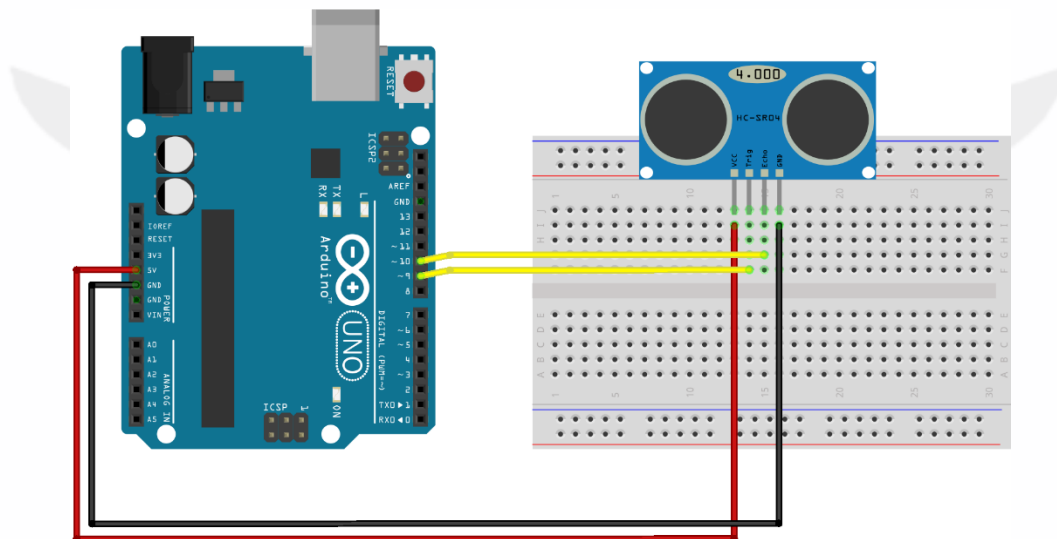

Figure 4.1 – Wiring diagram for Ultrasonic Distance Meter project.
- a. Connect the HC-SR04 as shown in the **Wiring Diagram (Figure 4.1)**.